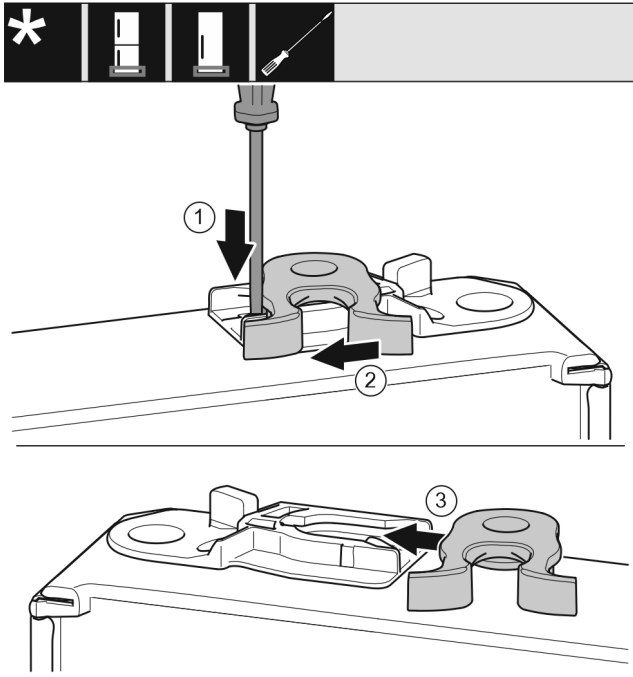

Fig. 20
- ▶ Use a slotted screwdriver to push the tab Fig. 20 (1) downwards.
- ▶ Pull the closing hook Fig. 20 (2) out of the guide.
- ▶ Insert the closing hook Fig. 20 (3) into the guide on the other side.